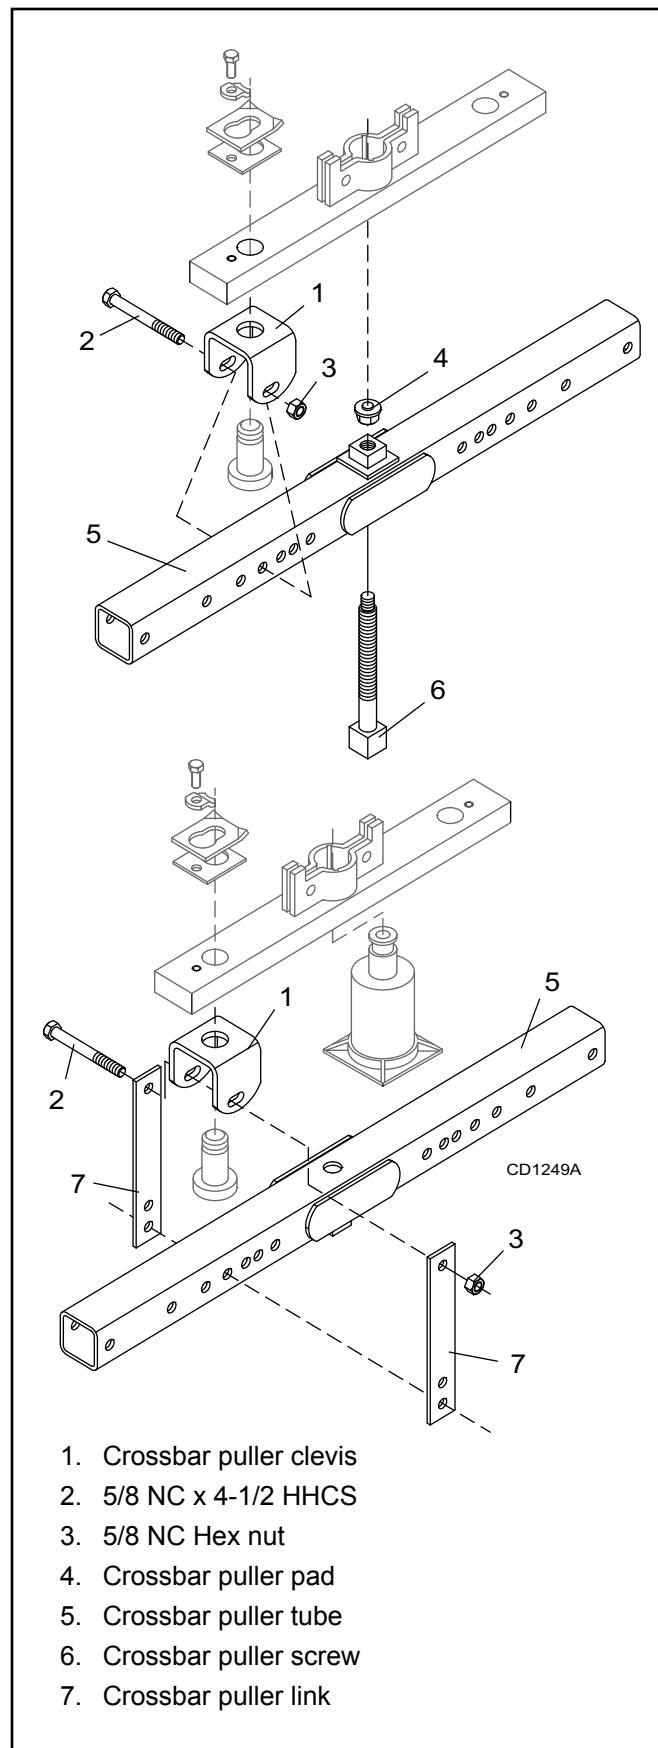

Figure 14. Crossbar Removal
NOTE: You will need to use either the puller screw (Item 6, Figure 14) or a small hydraulic jack to remove the crossbar.
3. Refer to Figure 14. Remove cotter pin from bottom of crossbar and remove nut and washer.
4. Attach a clevis (1) to each end of crossbar, using blade pins, spacers, keyhole plates, and blade pin clips.
5. Position tube assembly (5) with threaded nut (4) toward crossbar for puller screw removal or down for hydraulic jack removal.
6. For removal with puller screw, attach tube (5) to each clevis with bolts (2) and nuts (3). Place pad (4) in nut and thread puller screw (6) into nut from bottom. Tighten until pad is solid against gearbox shaft. For best results, strike head of puller screw with a hammer while tightening with a wrench.
7. For removal with a jack, attach tube to each clevis with puller links (7), bolts (2), and nuts (3). Place jack on tube with end of jack pressing against gearbox shaft. Slowly apply force with jack.